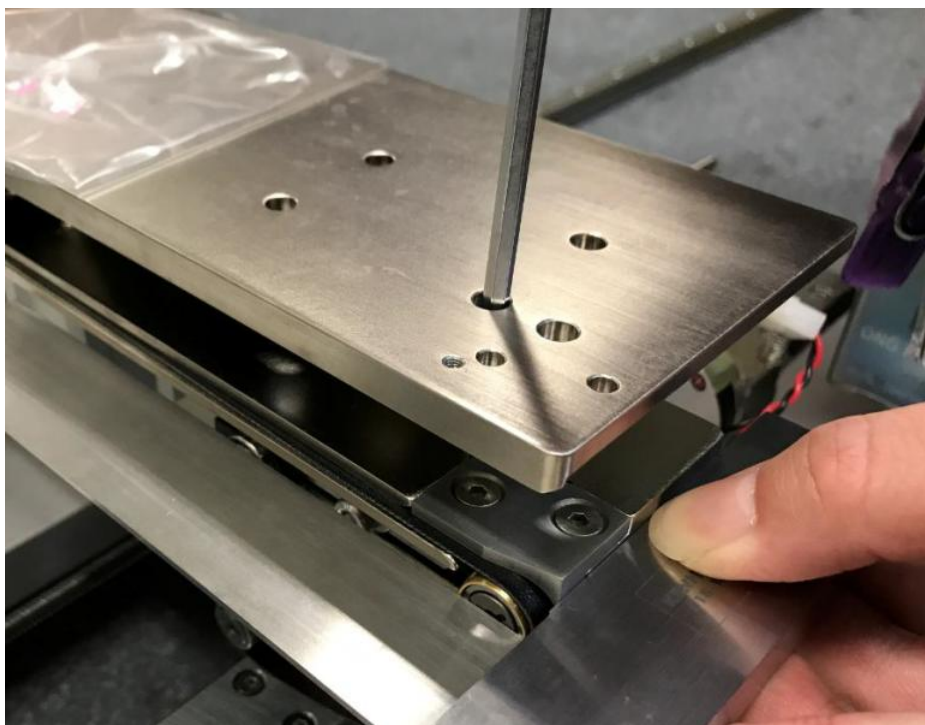

Figure 44 Adj Rail Mount Pulley Alignment
- c) Place L-ruler & Align Mount Pulley assembly as below Figure 44. Align Mount Pulley perpendicular with Adj Rail. Next, Tighten 4 x Screws